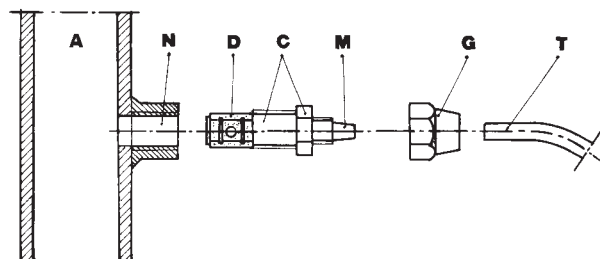

Fig. 9
- g. - Select the most appropriate injection point on a pipe of the plant to be treated and there fit a 3/8" female steel gas thread connector (similar to BSPm). This connector is not supplied with the pump. Screw the injection valve to the gas connector, inserting a gasket as shown in Fig. 9. Then connect the discharge hose to the conical connector on the injection valve and fix it with the supplied tube nut G. The injection valve also acts as no return valve by means of a cilinder sleeve (elastomer, standard supplied in Viton).
3.1 - INJECTION VALVE INSTALLATION DIAGRAM Fig. 9